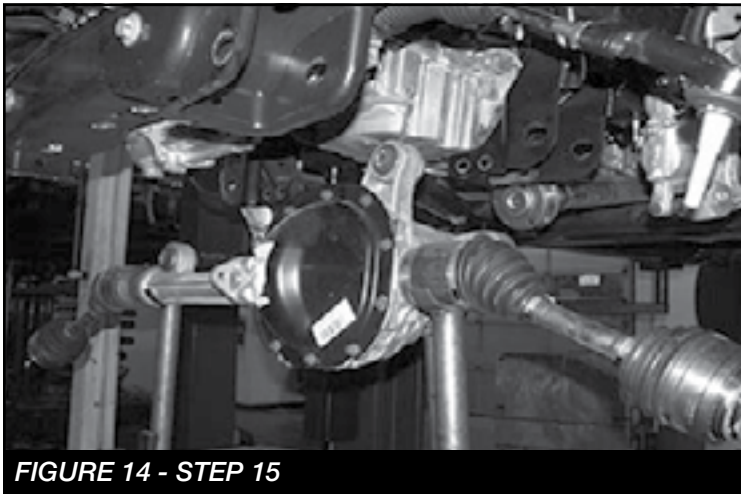

FIGURE 14 - STEP 15
15. Supporting the differential, remove the 3 differential mount bolts and save for re-installation. Remove the differential from the vehicle. **NOTE: If installing on a truck equipped with a diesel engine. Perform step 16 prior to removing the differential. Remove the diff by dropping the passenger side first so the diff clears the oil pan. SEE FIGURE 14**